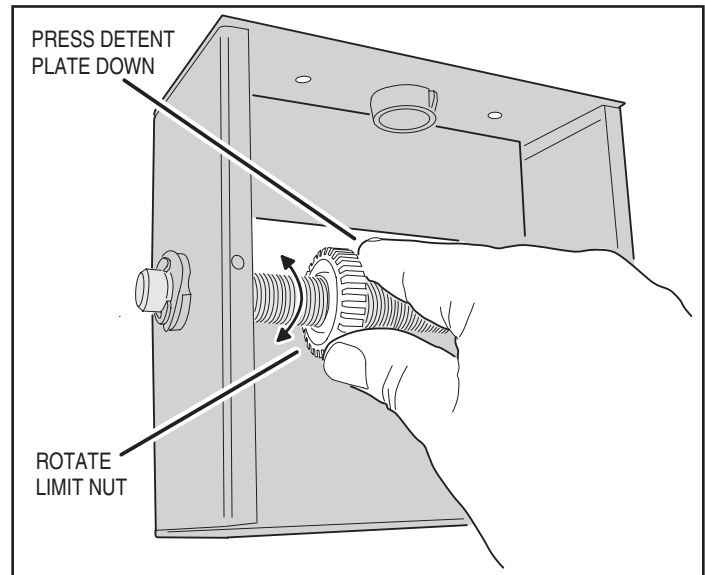

Figure 9. Setting the Limits
2. Once the gate is in this position, adjust the **OPEN** limit nut until it activates the limit switch for open. Press down the detent plate and rotate the nut along the threaded shaft (see Figure 9).